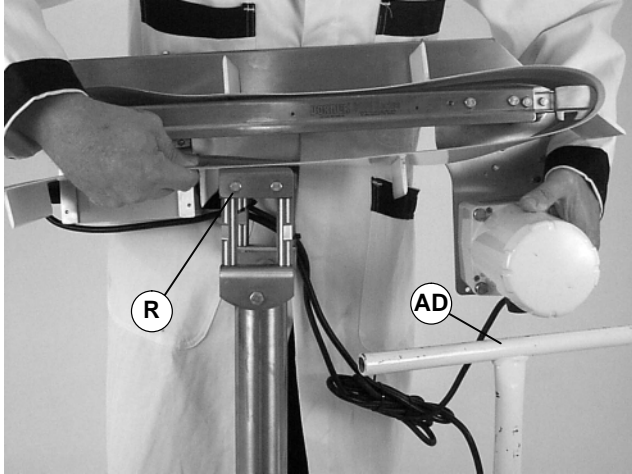

Figure 22
The weight of the gearmotor is all on one end of the conveyor which could cause it to tip off the stands when the mounting clamp plates are loosened. Be sure to provide support (AD of Figure 22) underneath the gearmotor while changing the belt.
- Temporarily support conveyor at gearmotor mounting package (AD of Figure 22).
- Loosen the mounting clamp plates (R of Figures 22 and 23), on both sides of the conveyor. Raise the conveyor and remove the belt.
2. Loosen the mounting clamp plates (R of Figures 22 and 23), on both sides of the conveyor. Raise the conveyor and replace the belt.
4. Tighten clamp plates screws (R) to 10.4 Nm.